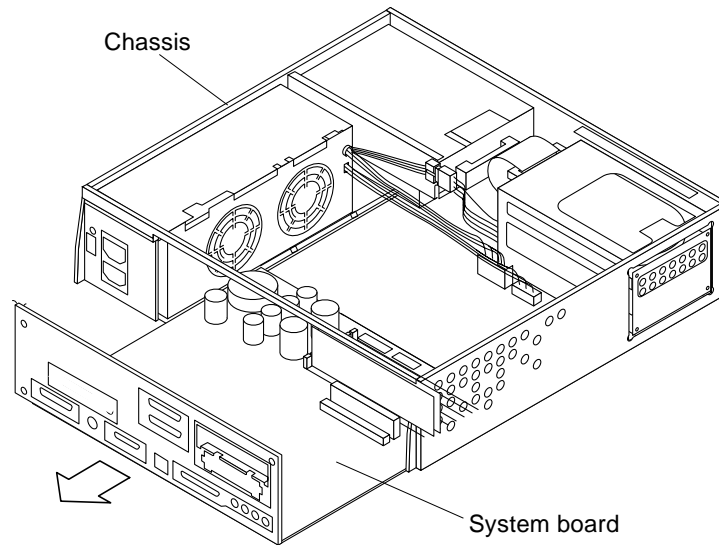

Figure 2-14 Sliding the System Board Out of the Chassis
- 5. Grasp the system board and slide it out of the chassis (Figure 2-14). Handle the system board by the back panel or by the edges only.**